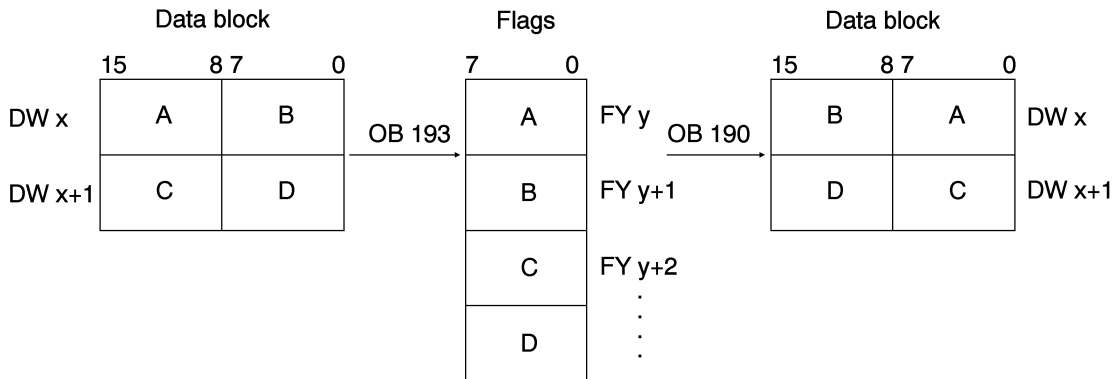

Fig. 6-10 Swapping the high byte and low byte in a DB using OB 193/OB 190
- A high byte and low byte in a data block can be swapped over without complicated programming by copying the data words to the flag area using the appropriate OBs and then transferring them back as illustrated by Fig. 6-10.